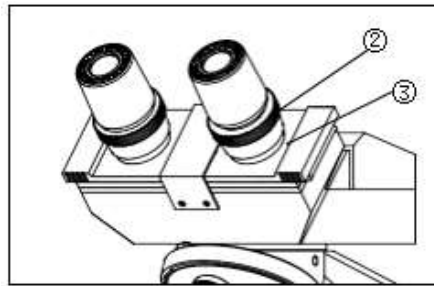

Figure-25
8.2.7 Adjusting the Diopter (Figure-25)